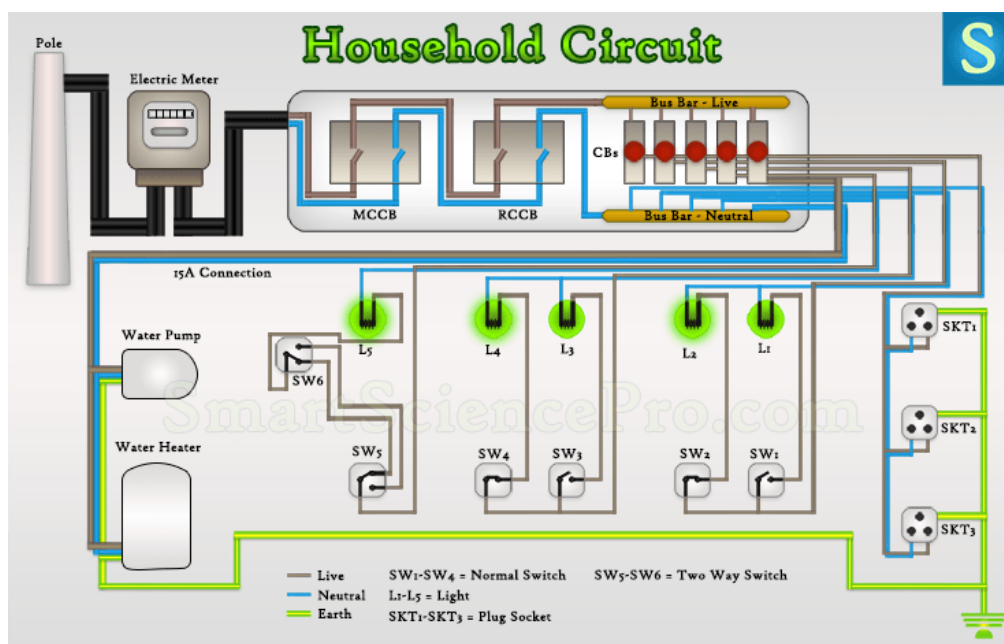

Figure 3.12.2: Picture of wiring plan of an installation
12. Run the 16 mm² cables to the consumer unit and terminate conforming to the given wiring diagram in **Figure 3.12.2**.